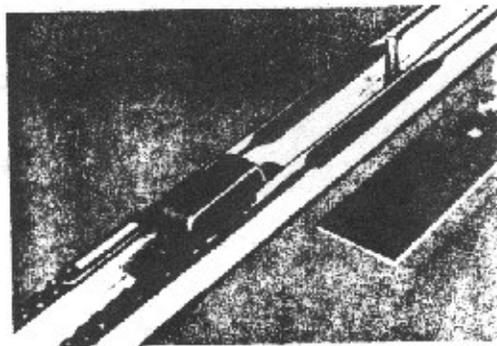

figure 10
- e. Disconnect the chain from the follower of the damaged cable. Then, remove the cable-spring and follower through the elongated slot in the bottom chain track extrusion (fig. 10).
- f. Install the new push spring cable assembly into the slot in the bottom chain track extrusion. Feed bolt end up chain track (it may require some force to get end past radius) and position follower in track. Attach the cable to the corner post by screwing the bolt into the upper post. Reconnect follower to the chain (fig. 10).